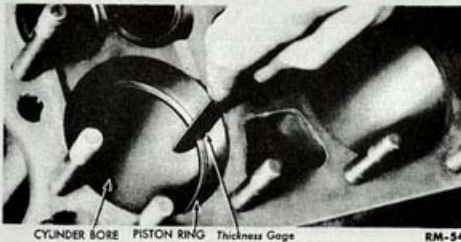

Fig. 26—Measuring Ring Gap with Thickness Gauge
e. **Fitting and Installing Piston Rings.** Place a new piston ring in the cylinder and press it about halfway down into the cylinder bore with the bottom of a piston so the ring will be square with the cylinder wall. Measure the ring end gap with a thickness gage (fig. 26). If the gap is less than 0.012 inch, remove the ring. Place it in a jig and file it with a fine cut file until the correct gap (0.012 to 0.017 inch) is established. If the gap exceeds 0.017 inch, an oversize ring must be used. Roll the new piston ring around its groove in the piston. The ring should roll freely and not have a clearance of less than 0.0015 inch or more than 0.004 inch. Install the piston ring on the pistons with a piston ring expander (fig. 27). Repeat the entire above procedure for each piston ring.